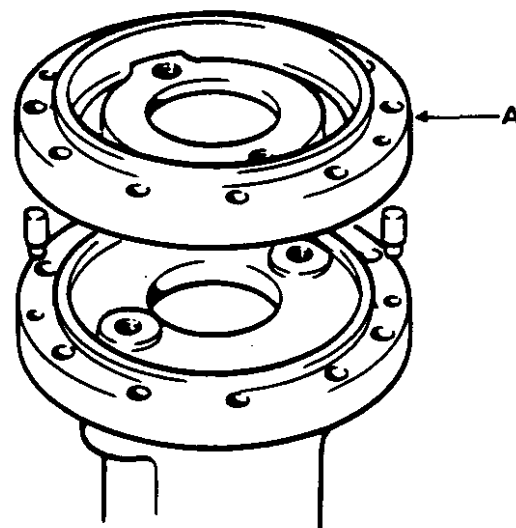

FIGURE 3
5. Put the adaptor plate in position on the dowels. See Fig. 3.